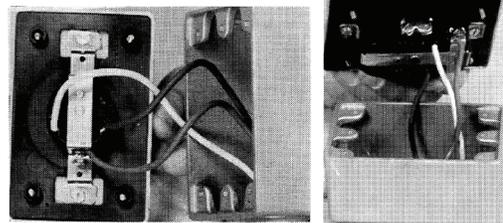

Figure 5
7. Place receptacle cover on back box carefully to prevent damage to wiring and sealing gasket. (see Figure 5.)